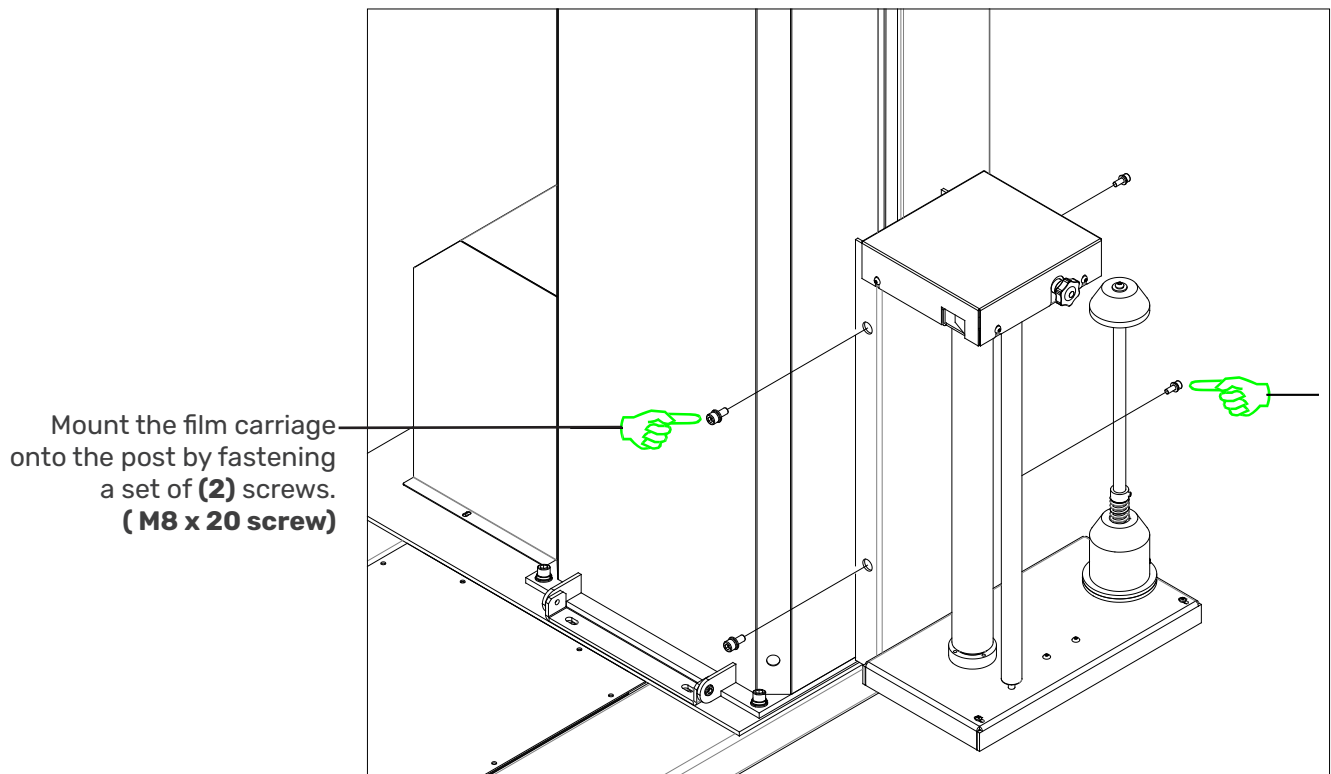

Figure 5
3. Screw the film carriage into the post. (See Figure 5)